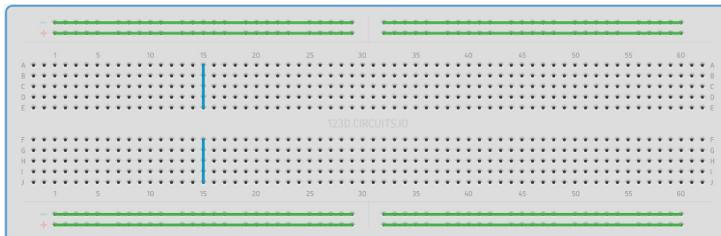

Fig. 2.1: Bread board connnections
1. Plug the display to the breadboard in Fig. 2.1 and make the connections in Table 2.2. Henceforth, all 5V and GND connections will be made from the breadboard.